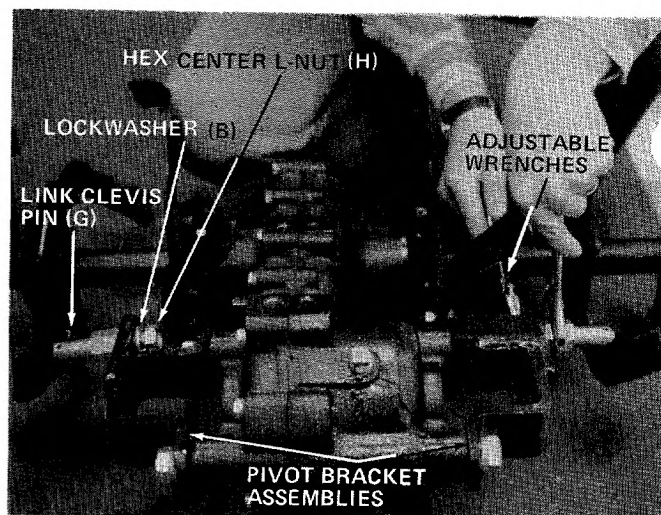

FIGURE 6
6. Insert link clevis pins (G) through outside holes of pivot bracket assemblies. Using two adjustable wrenches, tighten link clevis pins in place with lockwashers $5/8$ " (B) and hex center lock nuts $5/8$ -18 (H). See figure 6.